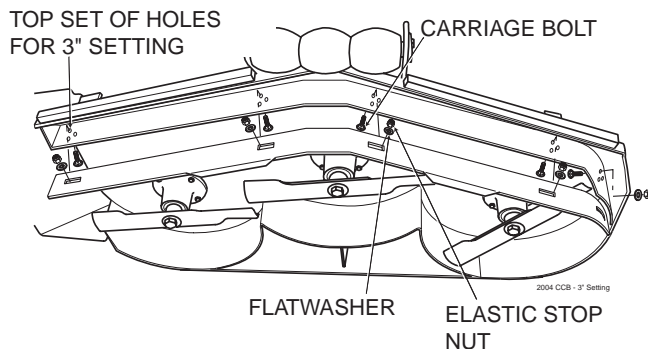

Figure 6-10 3" Custom-Cut Baffle Position
- A. 3" Position - baffle is installed using the top set of holes on the front baffle welded inside the cutter deck. (See Figure 6.10, Page 29). The V-Plus and Advantage cutter decks will deliver the best quality-of-cut in very tall, wiry, tough-to-cut grass.
3. Move the Custom-Cut Baffle to desired position. (See Figures 6.10 through 6.12 for position).